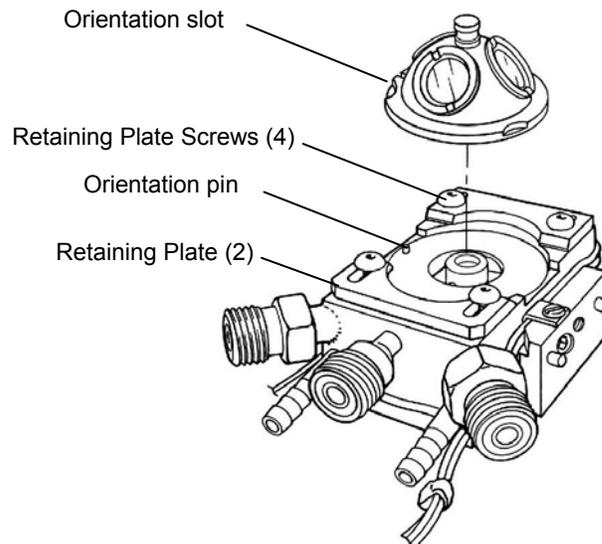

Figure 12 • Installing the HVC Dome
- Install the dome making sure that the orientation slot on the dome engages the orientation pin on the HVC (Figure 12).